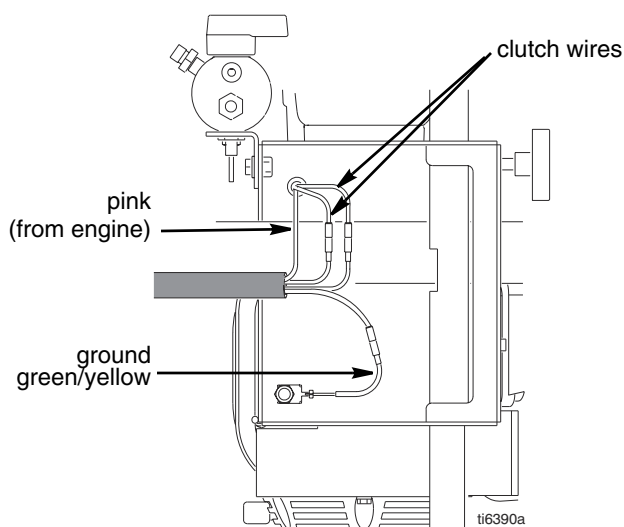

FIG. 12
2. FIG. 12. Disconnect all necessary wiring.
3. FIG. 12. Connect all necessary wiring.